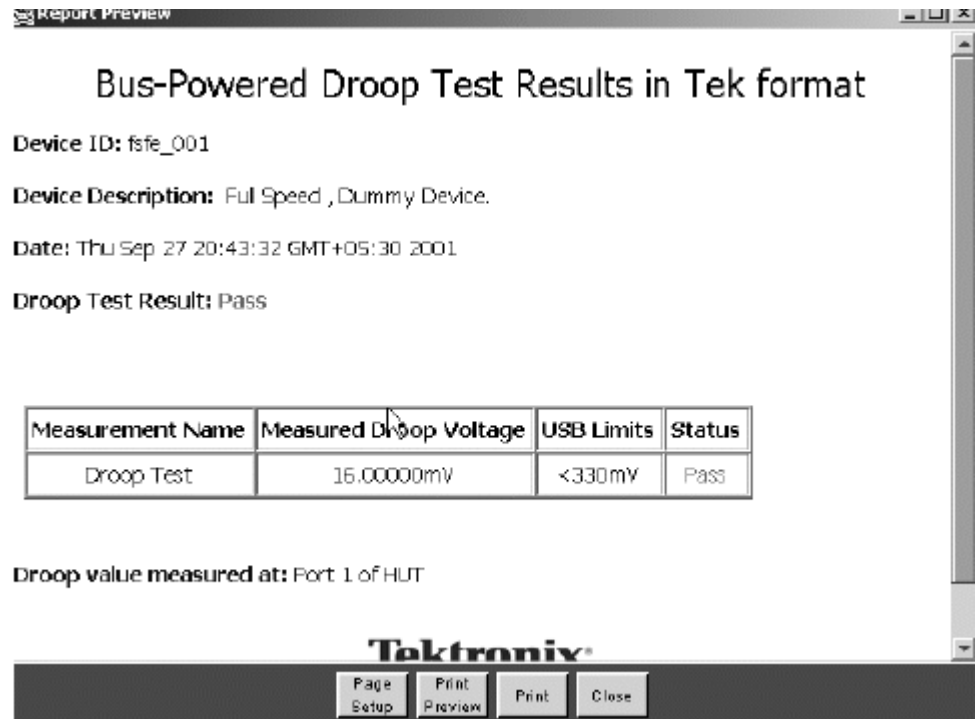

Figure 2-70: Droop test report in Tektronix format
5. View Tektronix Specific or Plug-Fest Specific report format as HTML pages or the CSV format in Microsoft Excel. Figure 2-70 shows the droop test report in Tektronix Specific format.